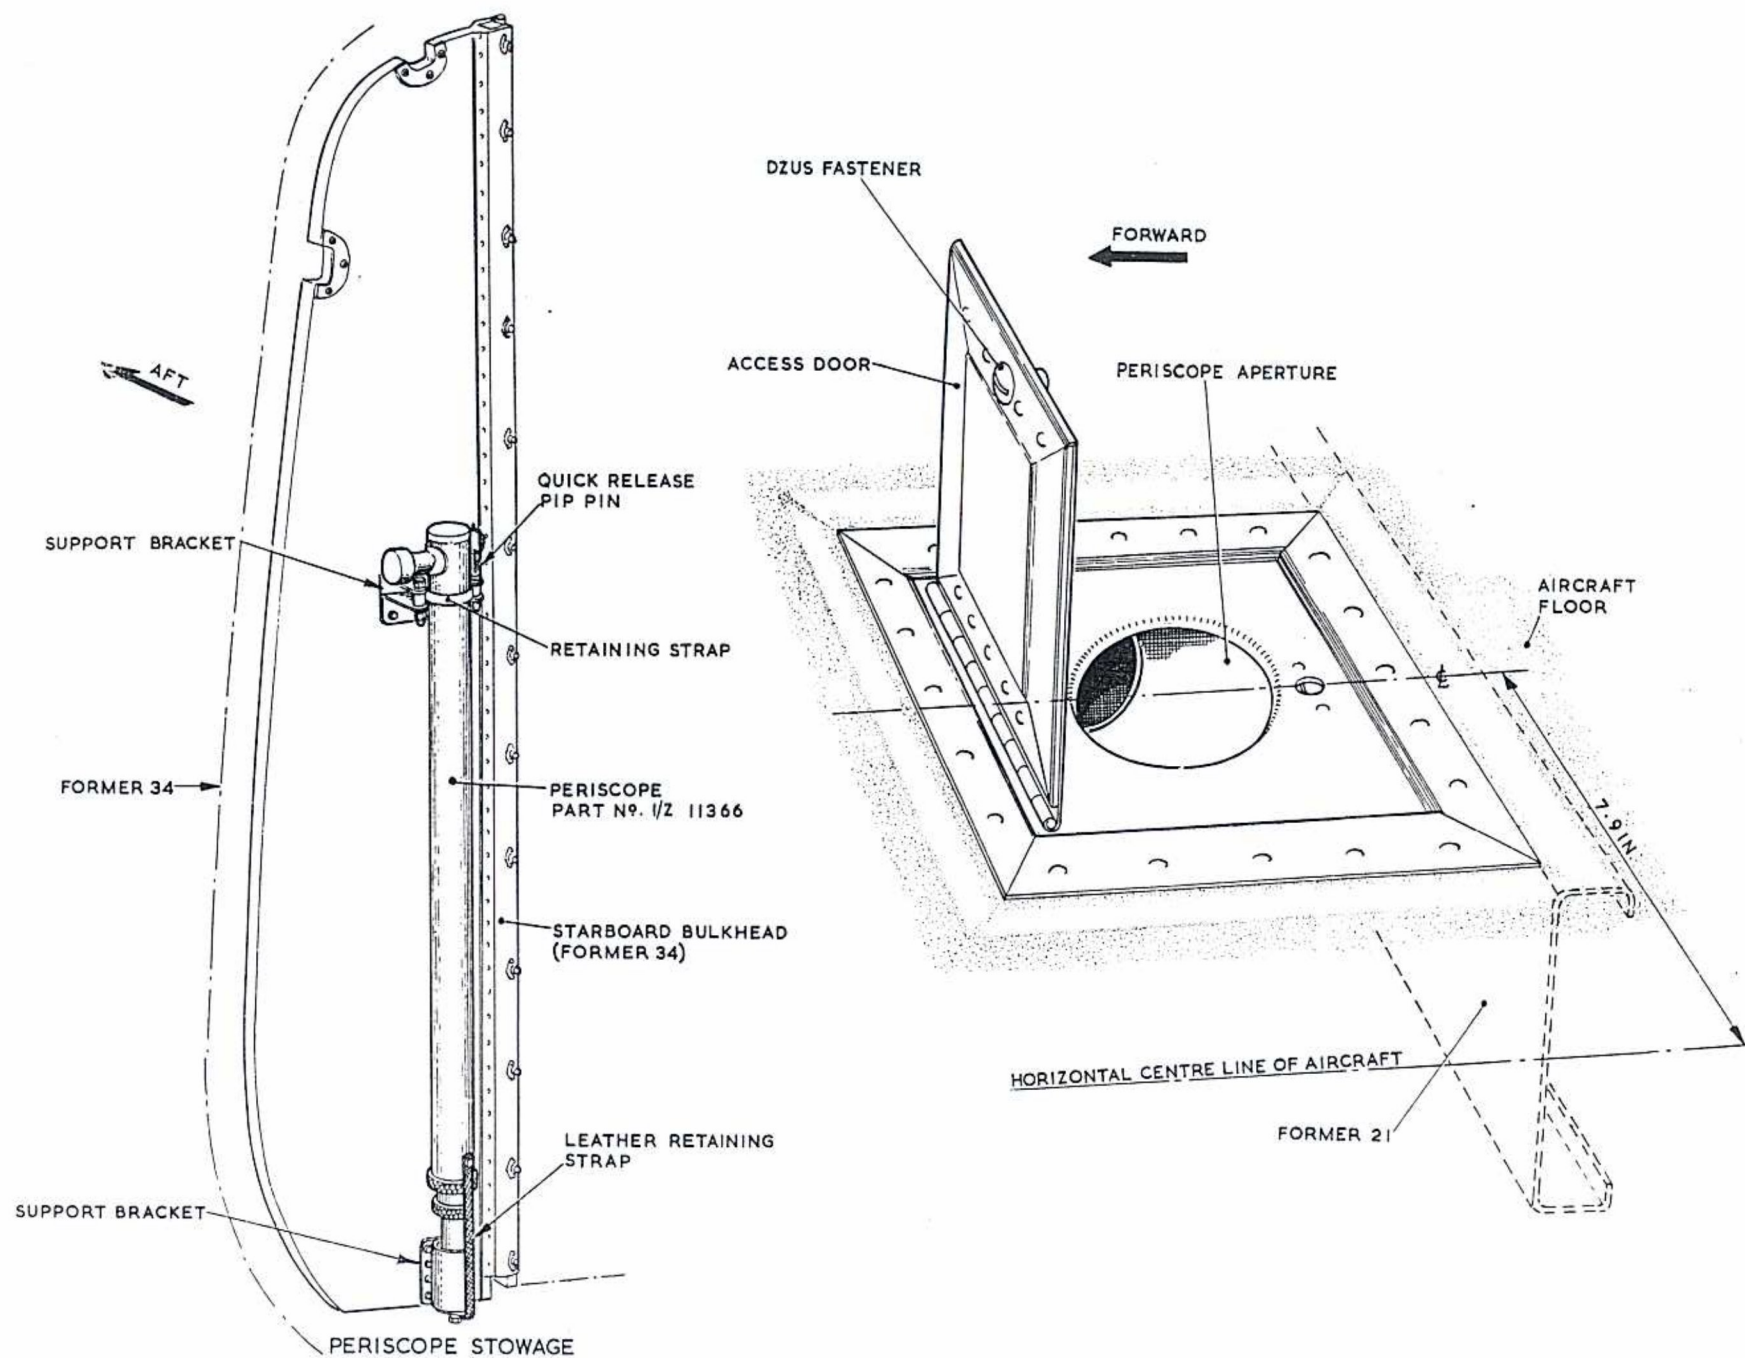

Fig. 3 Bomb bay inspection periscope
11. A periscope, H.S.A. Part No.1/Z 11366, illustrated in fig.3, is used for inspection of the bomb bay when the aircraft is in flight and the bomb doors closed.